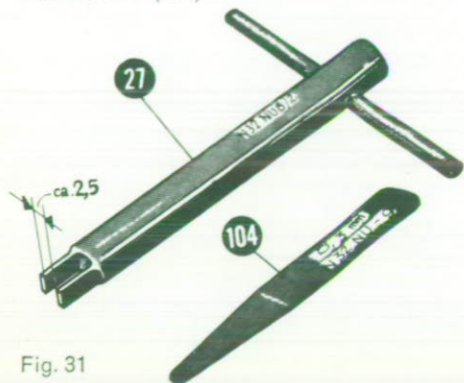

Fig. 31
- (1) Adjustment with new rack pinion.
- (2) Adjustment of shuttle driver where shuttle driver and pinion are machined untrue (as supplied by the factory).
If (1). The rack pinion (100) is still loose on the shuttle driver spindle (101): Test the size of the thread passage, i. e. the play between shuttle-hook (103) and shuttle driver (102). It should be 0,3 mm (0,0119") and should be checked with a feeler gauge N 32 NU 9 (104) / Fig. 31. If it is too large or too small, adjust the lower driver leg (102) by means of ad-
justing tool N 32 NU 8 (27) - Fig. 31 - inward or outward, until gauge (104) shows the correct play between driver (102) and shuttle (103).